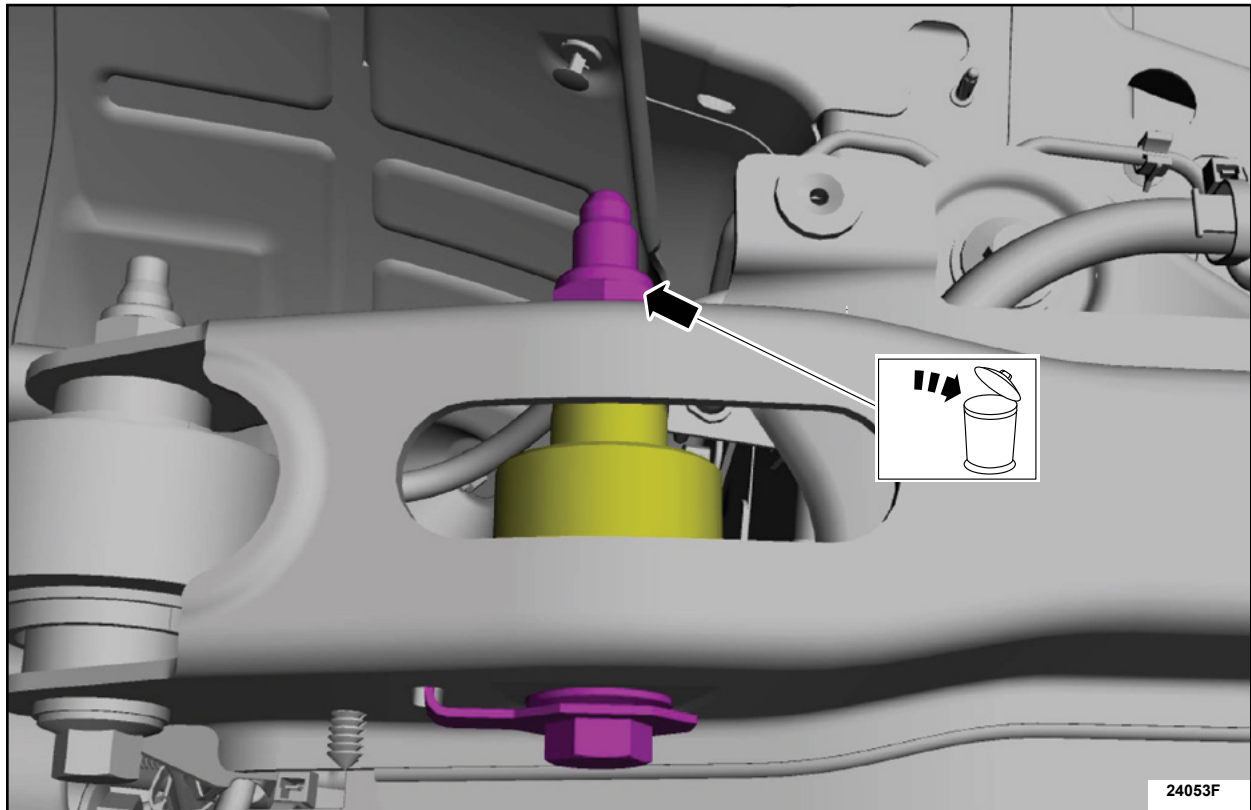

FIGURE 4
9. Remove the lower shock absorber bolt and nut. Discard the nut. See Figure 4.